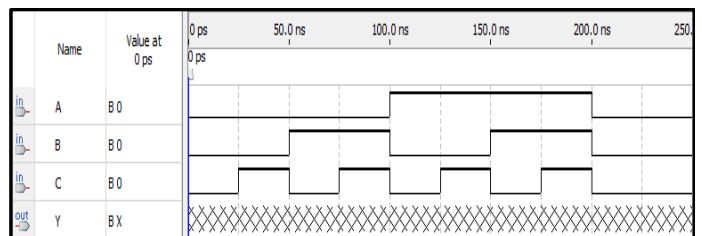

Figure 9: Vwf with manual inputs
4. Manually manipulate your signals to match the image in Figure 9. Save this simulation design.